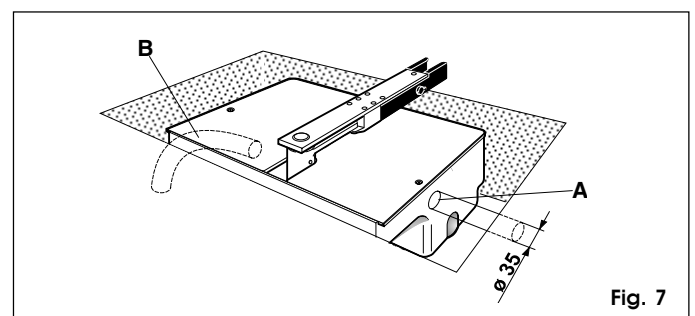

Fig. 7
- 3) Lay down a PVC tube of diameter 35 mm through which to pass a 4 core electrical cable. The tube must reach from the box the control unit (fig. 7 ref.A). Lay a second tube to drain off rain water, from the box to the nearest drain (fig. 7 ref.B).